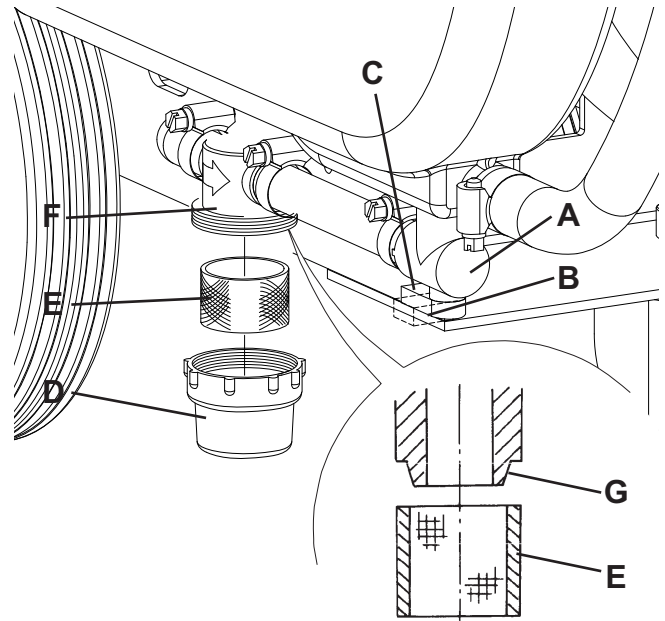

Figure 5
1. Disconnect the power supply cable (3) from the electrical mains and place it on the holder (4).
3. Close the solution tap (A, Fig. 5) under the machine, behind the right rear wheel. The tap (A) is closed when it is in the position (B) and it is open when it is in the position (C).
4. Remove the transparent cover (D), then remove the filter strainer (E). Clean and install them on the support (F).